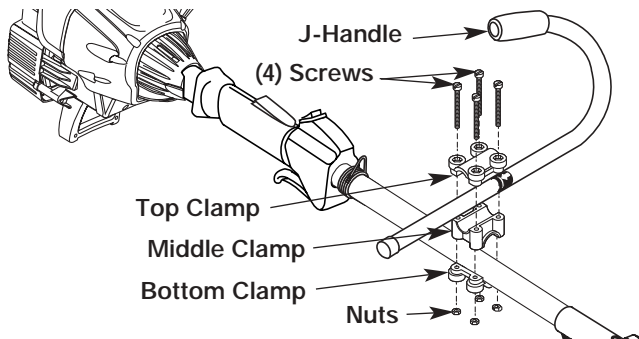

Figure 1
1. Place the J-handle between the top and middle clamp pieces. See Figure 1.